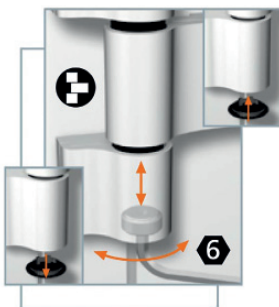

Figure 10.3. Adjustment of seal pressure:
- Turn the middle screw (Figure 10.3)